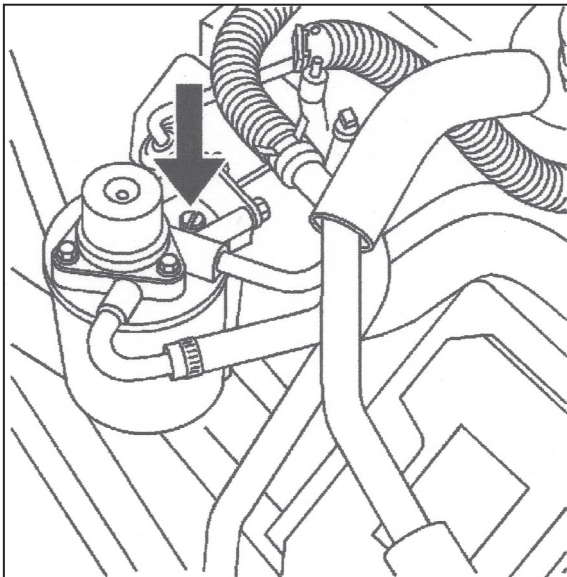

FIG. 2
- c) Open the drain 3–4 turns and allow the fuel to drain into the catch container. It may be necessary to open the vent valve illustrated in Fig. 2 under Priming the Fuel System.
- 1) Open the vent valve on the filter adapter by turning the vent screw counterclockwise several full turns (see Fig. 2).